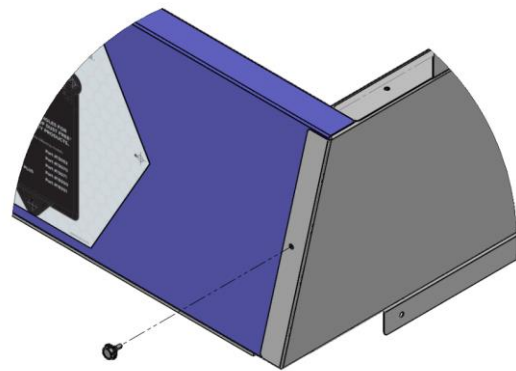

Figure 6: Secure rear panel to side panel with supplied No. 10 x 3/8" screw.
5. Secure the rear panel to the side panel using the supplied **No. 10 x 3/8"** screws in the aligned pre-drilled holes as shown in **Figure 6**.